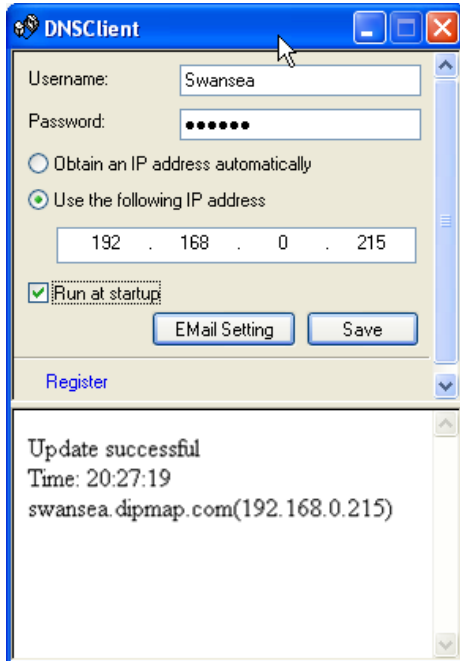

Figure 11-3
1. Go to Windows **Start**, point to **Programs**, select **DDNS**, and then run **Dynamic DNS Service**. The DNS Client dialog box (Figure 11-3) appears.
You can set up E-mail settings to receive e-mail notification. In the DNS Client dialog box (Figure 11-3), click **E-mail Setting**. The E-mail Setting dialog box appears.